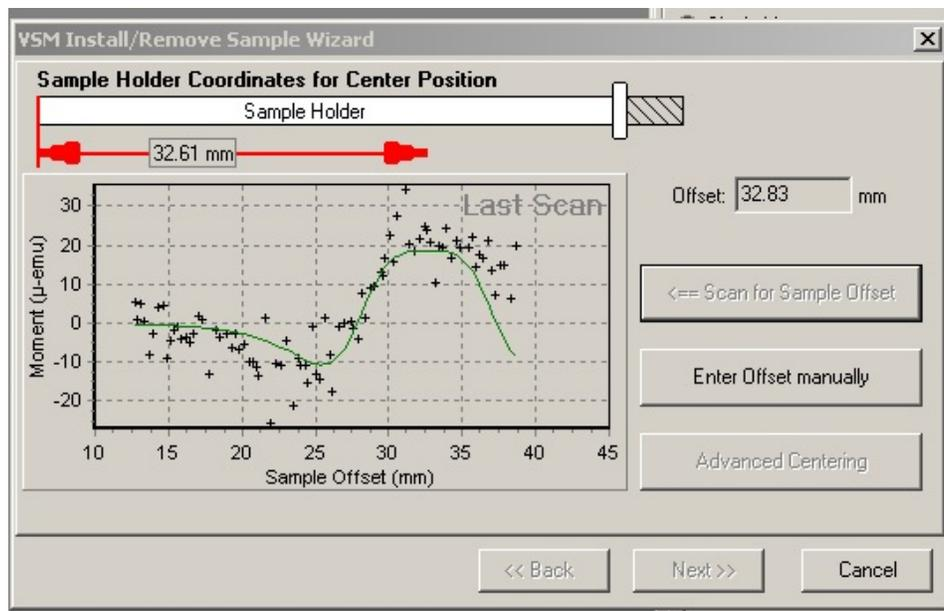

Figure 8. Sample centering result for the brass holder.
6) When the scan is complete, you may see something similar to that of Figure 8. The first dialog box will identify the center position. In this case, we see that the maximum background contribution of the holder at 3 T is 2×10^{-5} emu, which will be small compared to the signal we expect for our magnetite sample.